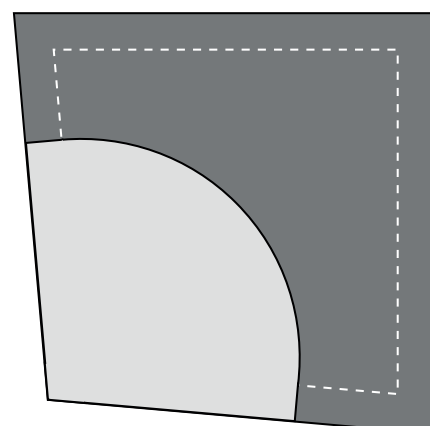

fig 4
4. Fuse the fan tails to the template G pieces aligning the edges of the cut fabric as shown in fig 4 (the white dashed line indicates the seam lines on piece G).